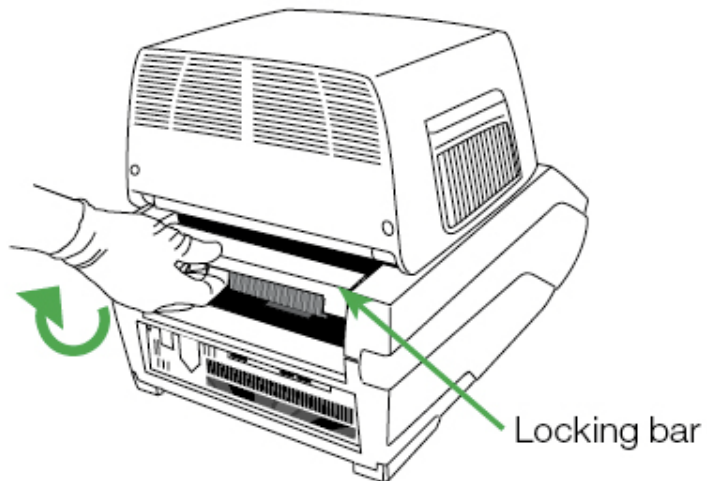

Figure 5. Locking the optical module into place.
4. Reach around and pull up the locking bar of the C1000 until it is flush with the sides of the module bay. This action moves the module forward, locking it into place (Figure 5).